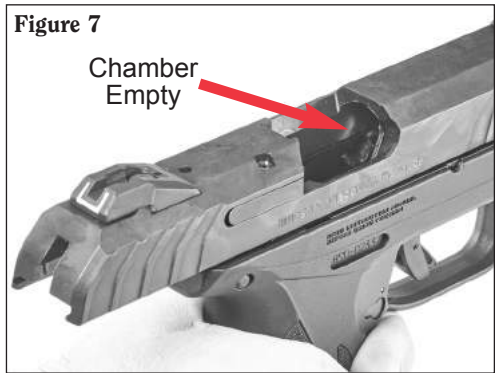

**Figure 5**
1. **Keep pistol pointed in a safe direction.** Press the magazine latch and withdraw the magazine from the frame (see Figure 5).